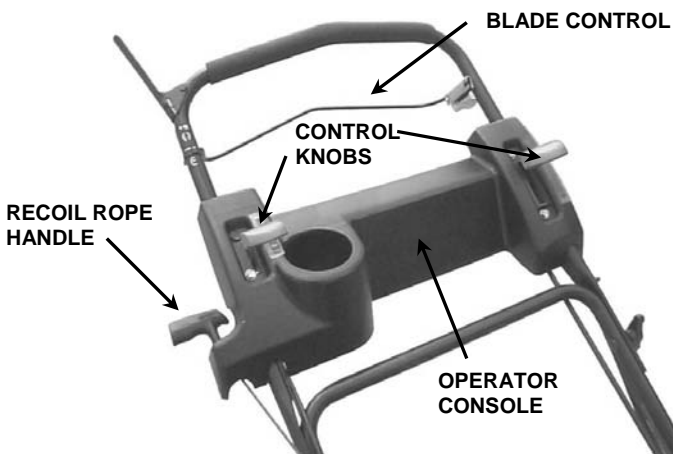

FIGURE 2
STEP 5: Pull blade control bail against handle and at the same time, pull engine rope handle and slip pull cord into rope guide located on handle. See Figure 2.
STEP 6: Install Operator Console onto upper handle with four 1/4-20 x 1/2" torx screws. Also, firmly press control knobs onto engine speed and ground speed control levers. (NOTE: Both knobs are identical.) See Figure 2.